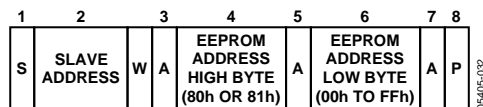

Figure 32. Setting an EEPROM Address
- Set up a 2-byte EEPROM address for a subsequent read or block read. In this case, the command byte is the high byte of the EEPROM address (80h). The (only) data byte is the low byte of the EEPROM address, as shown in Figure 32.